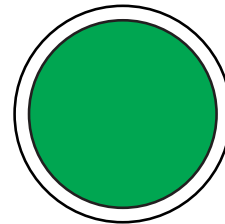

Figure 47. Circuit Breaker ON Button (ON/GREEN)
9. Press the **Circuit Breaker ON button** (Figure 47). The button LED will turn **ON (green)** and power will be supplied to the output terminals and receptacles.
3. The main circuit breaker will automatically turn **ON** after the engine starts. Observe that the LED on the **Circuit Breaker ON button** has turned **ON (green)**. See Figure 47.